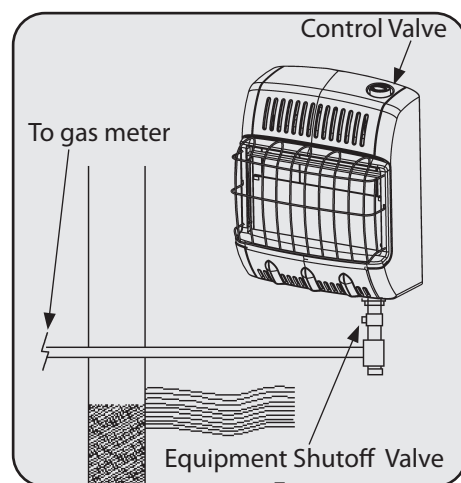

Figure 14
3. Check all joints from the propane/LP supply valve to equipment shutoff valve. See Figure 14. Apply mixture of liquid soap and water to gas joints. Bubbles forming show a leak.
5. Check all joints from equipment shutoff valve to control valve. See Figure 14. Apply mixture of liquid soap and water to gas joints. Bubbles forming show a leak.